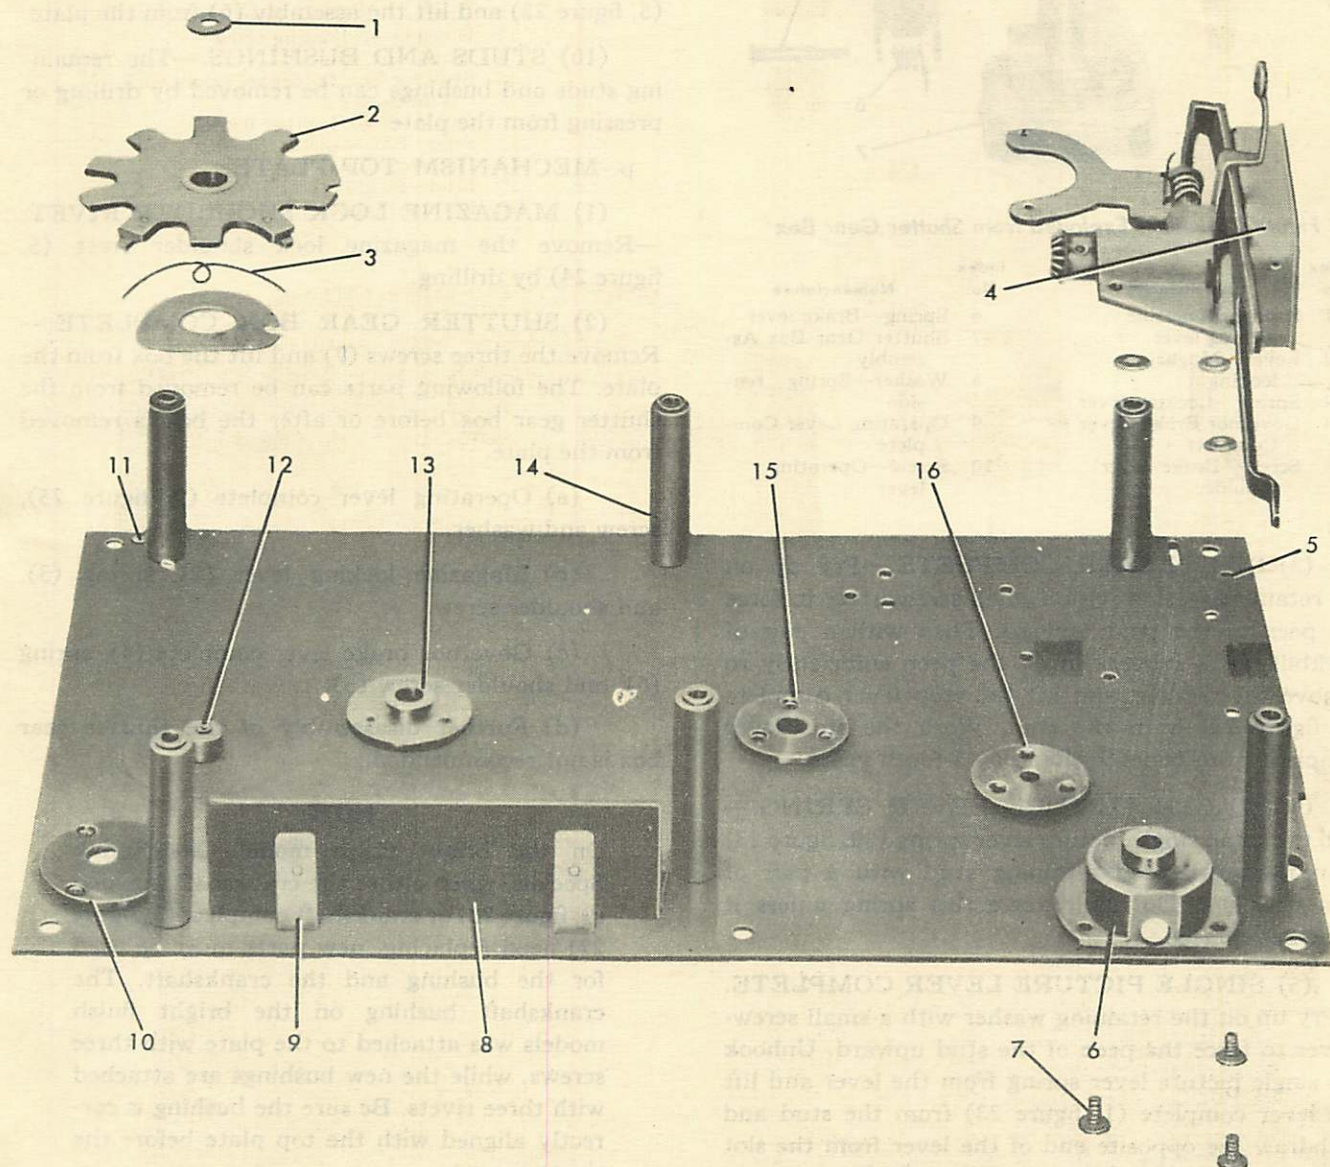

Figure 24—Mechanism Top Plate—Exploded
(1) Attach the large winding crank and wind the motor a fraction of a turn.
(2) From between the mechanism plates at the rear of the mechanism, turn the signal device disk (shown removed, 2, figure 24) one notch toward the center of the camera.
(3) Press the starting button and let the motor run completely down. If the stud on the large motor gear stops against the signal device disk, turn the motor winding crank just enough to release the signal device disk. Then turn the disk so that the slot is opposite the stud and allow the motor to run down.
(1) **MAGAZINE LOCK SHOULDER RIVET.**—Remove the magazine lock shoulder rivet (5, figure 24) by drilling.
(2) **SHUTTER GEAR BOX COMPLETE.**—Remove the three screws (7) and lift the box from the plate. The following parts can be removed from the shutter gear box before or after the box is removed from the plate.
(3) **BUSHINGS AND STUDS.** (See figure 24.)—The following bushings and studs can be removed from the plate by drilling the attaching rivets.
- (d) Motor spring shaft bushing (13).
- (e) Magazine lock bushing (10).
- (g) Six front plate studs (14).
- (h) Magazine lock shoulder rivet (5).
- (i) Magazine stop stud (11).
(4) **SIGNAL DEVICE DISK COMPLETE.** (See figure 24.)—Pry up on the washer as in paragraph o. (5) preceding and remove the washer (1), signal device disk (2), and tension washer. The signal device disk stud (12) can be removed by drilling.